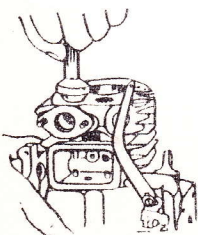

Fig. 8. Reworking Valve Seat with Cutter
9. If valve seat cutter is used (Fig. 8), it should be deburred with fine lapping compound. (If valve seat and valve face appear in good condition, they should be touched up lightly with lapping compound.)